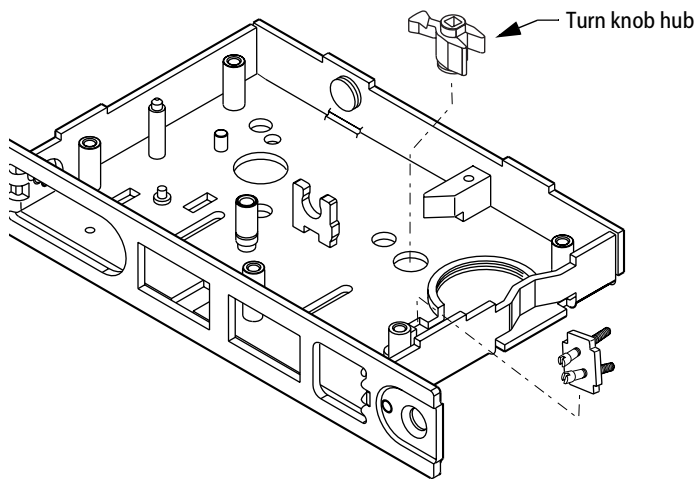

Figure 2—Replacing the turn knob hub
- 3 Replace the old turn knob hub with the new one. See Figure 2.